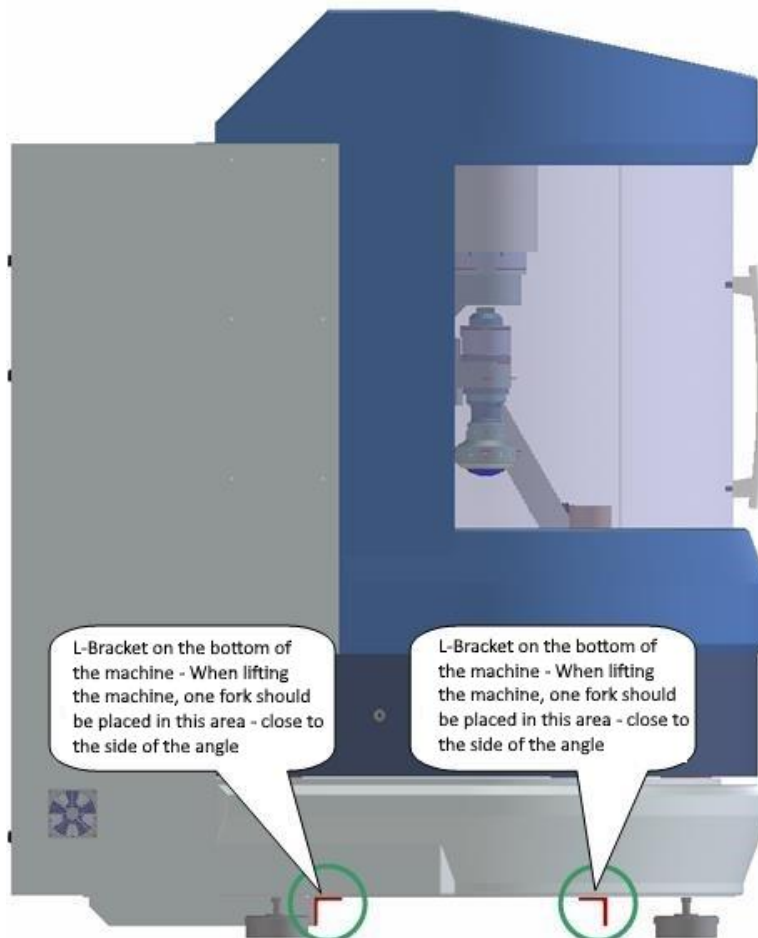

Figure 5 - Forklift zones
**ATTENTION:** Please note the centre of gravity. See (Figure 5 - Forklift zones).
**ATTENTION:** The machine must be lifted in the forklift zones marked in (Figure 5 - Forklift zones). Risk of Tipping Over!
**ATTENTION:** Please note the centre of gravity in Figure 5 - Forklift zones.
- Move the forks of the lift truck or forklift as far as possible under the machine. See (Figure 5 - Forklift zones).
**ATTENTION:** The machine must be lifted in the fork lift zones marked in (Figure 5 - Forklift zones). Risk of Tipping Over!